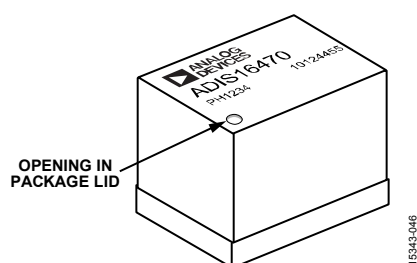

Figure 46. Pressure Relief Hole
- The hole in the top of the lid (see Figure 46) provides venting and pressure relief during the assembly process of the ADIS16470. Keep this hole clear of obstruction while attaching the ADIS16470 to a PCB.